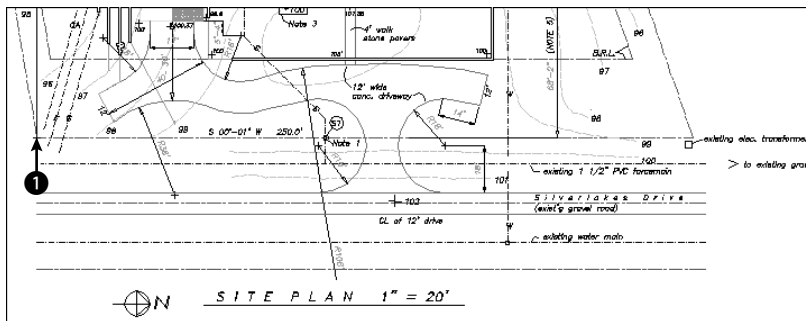

Figure 16-34: The completed multiline.
4. At the Specify next point: prompt, move the cursor to the right and type 255' ↵. If you want, you can experiment by drawing other line segments. Press Enter to end the command. The drawing should look like Figure 16-34.